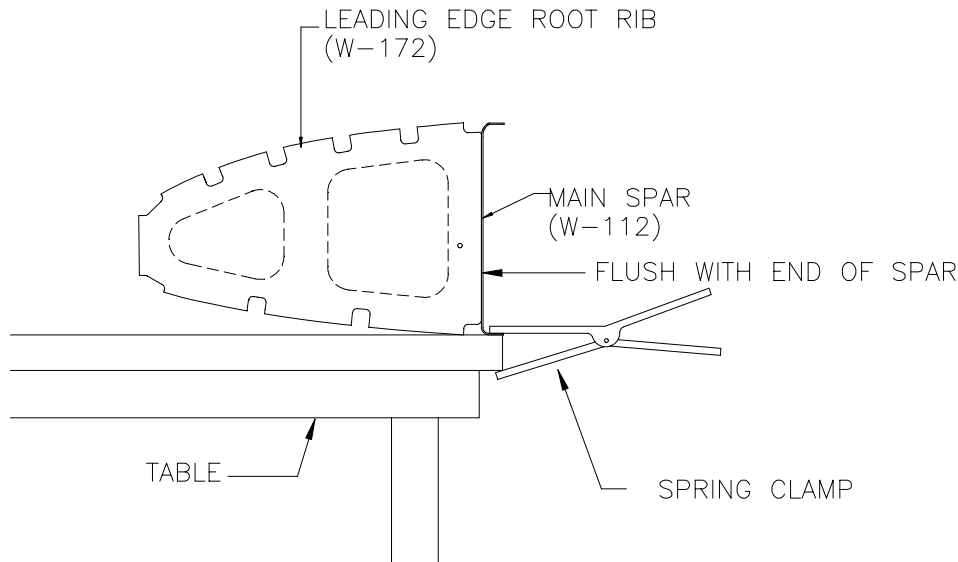

Figure 8.3.2
- 5) Place the Leading Edge Root Rib (W-172) in front of the Spar. Figure 8.3.2.